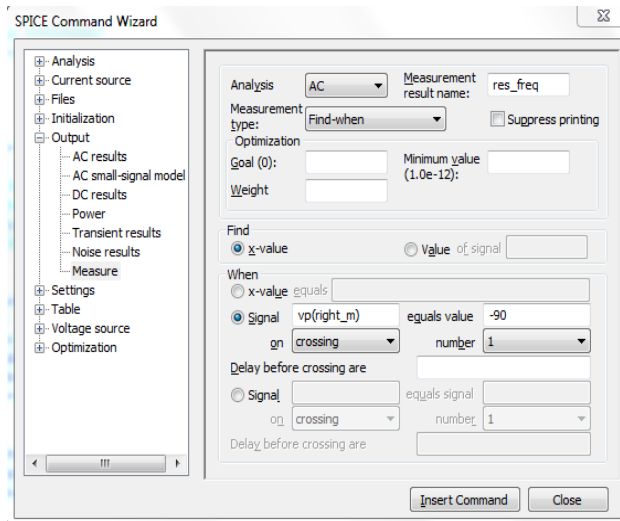

Figure 74: Customizing the quantities to measure
- ☑ Set **Analysis type** to **AC** and **Measurement type** to **Find-when**. Enter **res_freq** in the **Measurement result name** field. Under **When**, select **Signal**. Then, under **Find**, click the **x-value** radio button. Then, under **When** again, enter **vp(right_m)**. Set **equals value** to **-90**. From the drop-down menu next to **on** select **crossing**. For **number**, select **1** (Figure 74) and click **Insert Command**.